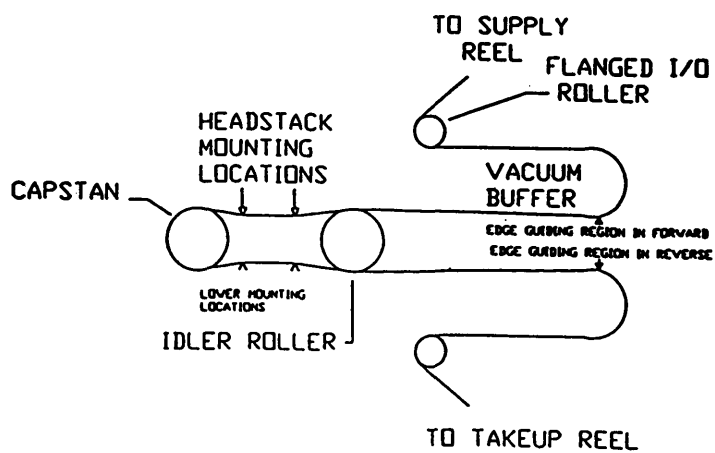

Fig. 2. Tape path in Honeywell Model 96 Transport.
3. Use cotton swabs to clean the head, capstan, and idler (see Fig. 2). Never dip a dirty swab into the bottle of alcohol. Pouring a little alcohol into a separate container for each cleaning operation will help prevent the alcohol supply from becoming contaminated. Swabs and alcohol are available from the VLA warehouse.